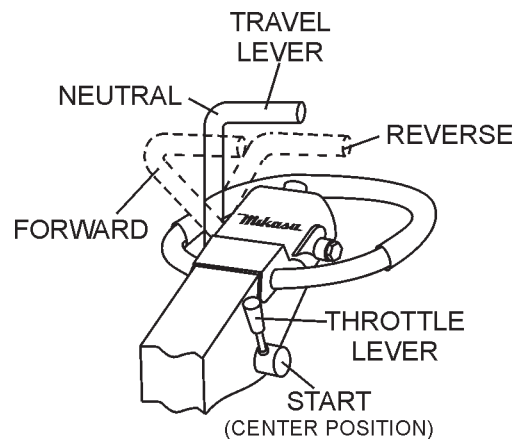

Figure 15. Throttle Lever (Start Position)
2. Move the throttle lever to the **START** position (Figure 15).
- Return the throttle lever to the **START** position (Figure 15). Allow the machine to cool down for 2 to 3 minutes.